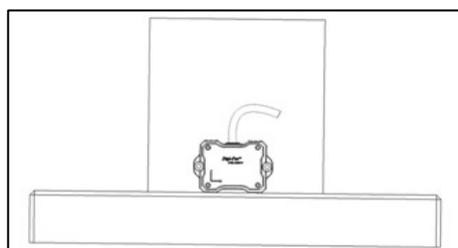
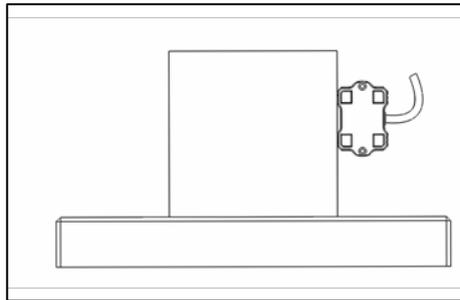

Figure 30. Tilt Sensor Module Position of Calibration Step 1
Figure 35. Tilt Sensor Module Position of Calibration Step 6
9. For **DWL5000XY** model, repeat step 6 to step 8 above until Calibration Step 8. Please locate the sensor module in following positions (refer to Figure 30 to Figure 35) respectively.